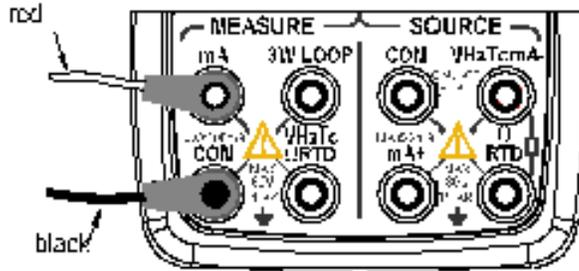

Figure 11 Measuring DC voltage, ohms, frequency, continuity and switch
For DC voltage, Ohm, frequency, consistency or switch measurement (Figure 11)
Step 3: Connect the lead cables for measurement to the measuring terminals of the measuring instrument under test as shown in Figure 11.
8.5 Measuring Temperature with Thermocouple (TC)
the upper part. Connecting the devices as shown in Figure 11,the beeper sounds continuously if the loop circuit resistance under measurement is less than 50Ω,and LCD shows the present measured resistance value.